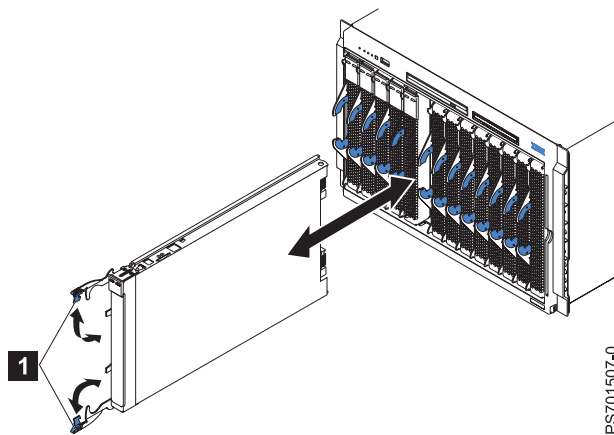

Figure 10. Removing the blade server from the BladeCenter unit
5. Open the two release handles, as shown by **1** in Figure 10. The blade server moves out of the bay approximately 0.6 cm (0.25 inch).